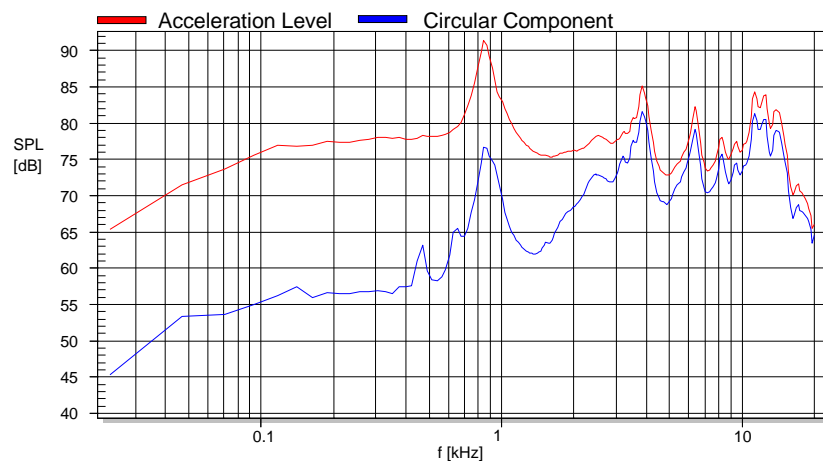

Figure 6: AAL of the total vibration (red) and AAL of the circumferential component (blue) versus frequency
Figure 6 shows that the Accumulated Acceleration Level (AAL) of the circumferential modes rises with the frequency. Circumferential modes with high amplitude may produce significant nonlinear distortion but produce low Sound Pressure Level (SPL) on-axis. However, circumferential modes generate significant side lobes resulting in a low Directivity Index (DI) (equation 17). The lowest circumferential component is a rocking mode which may cause voice coil rubbing in the gap.